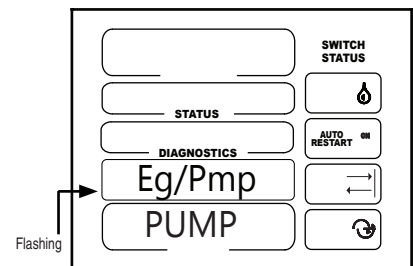

Figure 33-2
The engine control pump/engine/alt engine is used to select and control the type of pumping unit that is being used with the machine. The factory default setting for engine control pump/engine/alt engine is pump as illustrated in figure 33-2.
1. Eg/Pmp should be flashing. See figure 33-2.